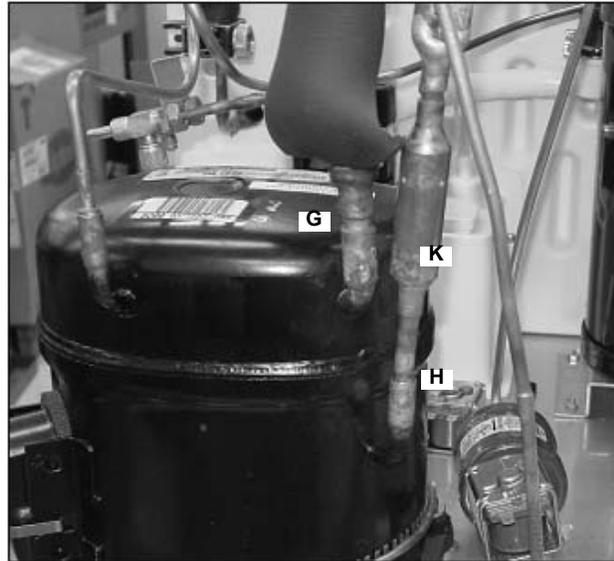

Figure 36.
35. Secure the insulation away from the joints in order to braze the compressor suction inlet (G) and the compressor discharge (H) lines (Figure 36).